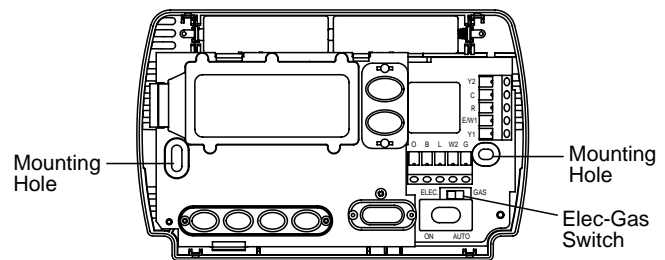

Figure 1 – Thermostat base
5. Fasten base loosely to wall, as shown in fig. 1, using two mounting screws. Place a level against bottom of base, adjust until level, and then tighten screws. (Leveling is for appearance only and will not affect thermostat operation.) If you are using existing mounting holes, or if holes drilled are too large and do not allow you to tighten base snugly, use plastic screw anchors to secure subbase.
This thermostat is configured from the factory to operate a heat/cool, fossil fuel (gas, oil, etc.), forced air system. It is configured correctly for any system that DOES NOT require the thermostat to energize the fan on a call for heat. If your system is an electric heat or heat-pump system that REQUIRES the thermostat to turn on the fan on a call for heat, locate the ELEC/GAS switch on the back of the thermostat (see fig. 1) and switch it to the **ELEC** position. This will allow the thermostat to energize the fan immediately on a call for heat. If you are unsure if the heating/cooling system requires the thermostat to control the fan, contact a qualified heating and air conditioning service person.
If "**BATT**" is displayed, the batteries are low and should be replaced with fresh "AA" Energizer® alkaline batteries. To replace batteries, press system button to **OFF**, install the batteries along the top of the base (see Fig. 1). The batteries must be installed with the positive (+) end to the left.